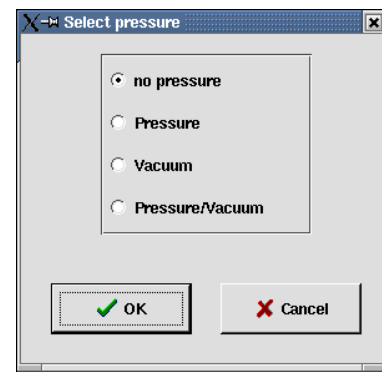

Fig. 51
- **P/V:** Here a special entry mask (fig. 51) opens up for the selection of the pressure. Processing under ambient pressure, under defined over pressure, defined low pressure or pressure/vacuum change can be pre-selected. The pressure values, which are used, are defined as system parameters and cannot be altered by the routine user for safety reasons.